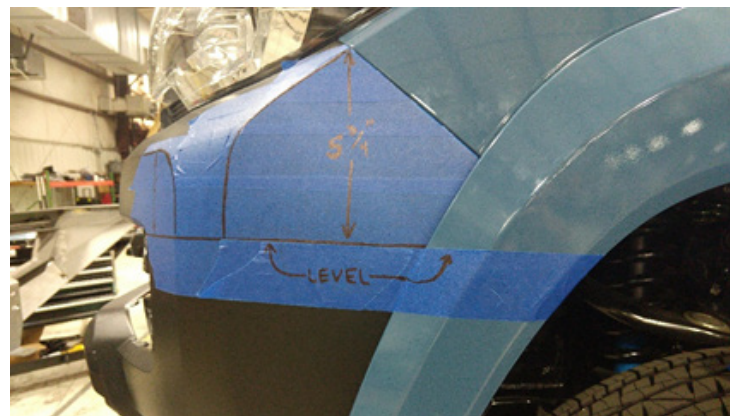

Figure 18
20. Using painters' tape and a silver sharpie, cover and mark the fender flare inline with the mark made in step 19. (Figure 18)